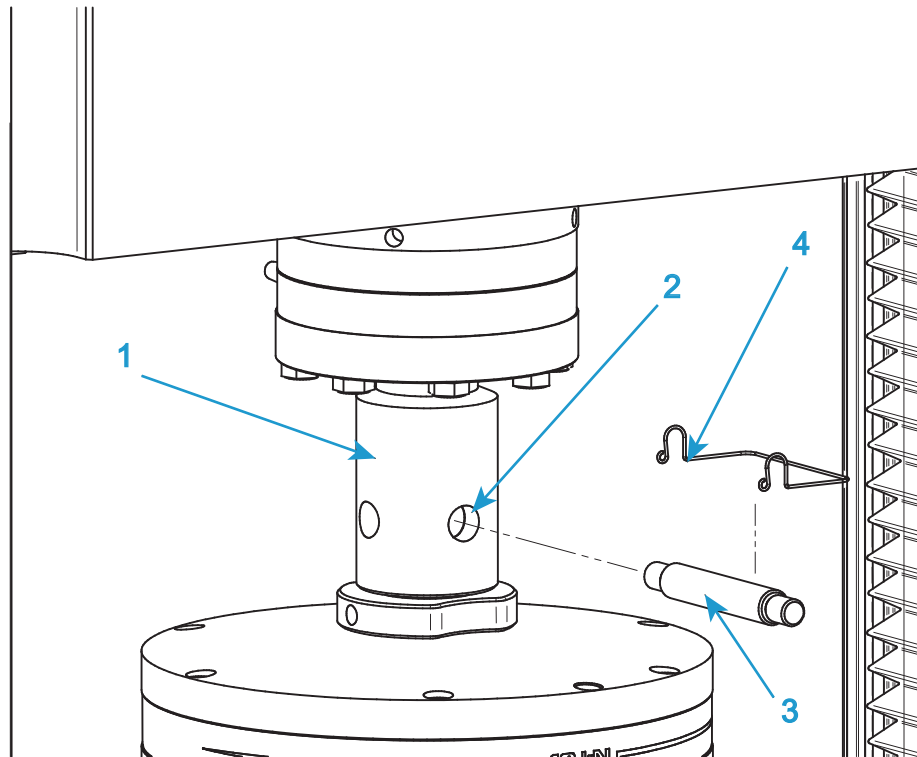

Figure 19. Typical grip installation
Refer to Figure 19 on page 92 when following this procedure.
1. For the upper grip, insert the adapter on the grip into the female clevis socket (1 in Figure 19) on the load cell adapter.
2. Align the clevis holes (2 in Figure 19) and insert the clevis pin (3 in Figure 19) through the holes.
3. Secure the clevis pin in position with the clevis pin clip (4 in Figure 19).